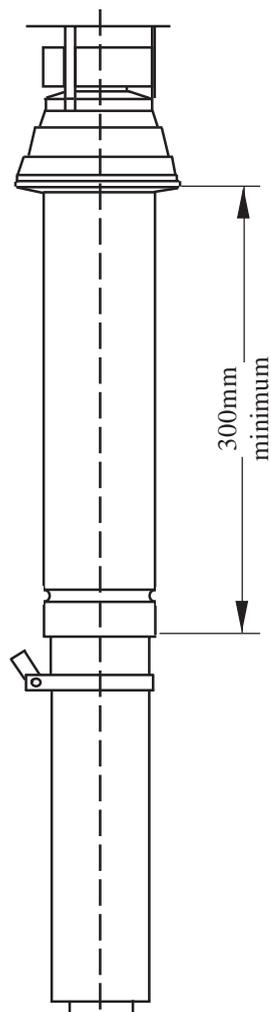

Fig. 3
6.2.9 The flue/air duct spigot on the appliance is female. For horizontal flued appliances, the flue/air duct should be constructed that such that condensate cannot leak from the joints. Therefore, on vertical runs, all female ends should face away from the appliance, and on horizontal runs should face towards the appliance, as depicted in Fig. 3. To reverse the lay of joints, it is recommended to use male/male adaptors, available from Johnson & Starley (Pt Nos. 1000-0002840 [inner], and 1000-0002850 [outer]). The flue should be constructed working from the appliance towards the telescopic flue.